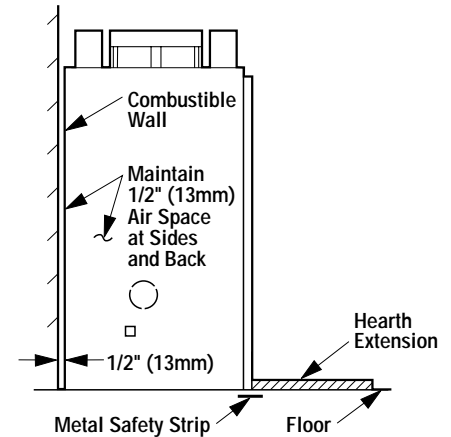

Figure 6
Step 2. Insert the provided metal safety strips, beneath the fireplace as illustrated (*Figures 6, 7 and 8*). The safety strips should overlap 1/2" min. for continual coverage of the floor.